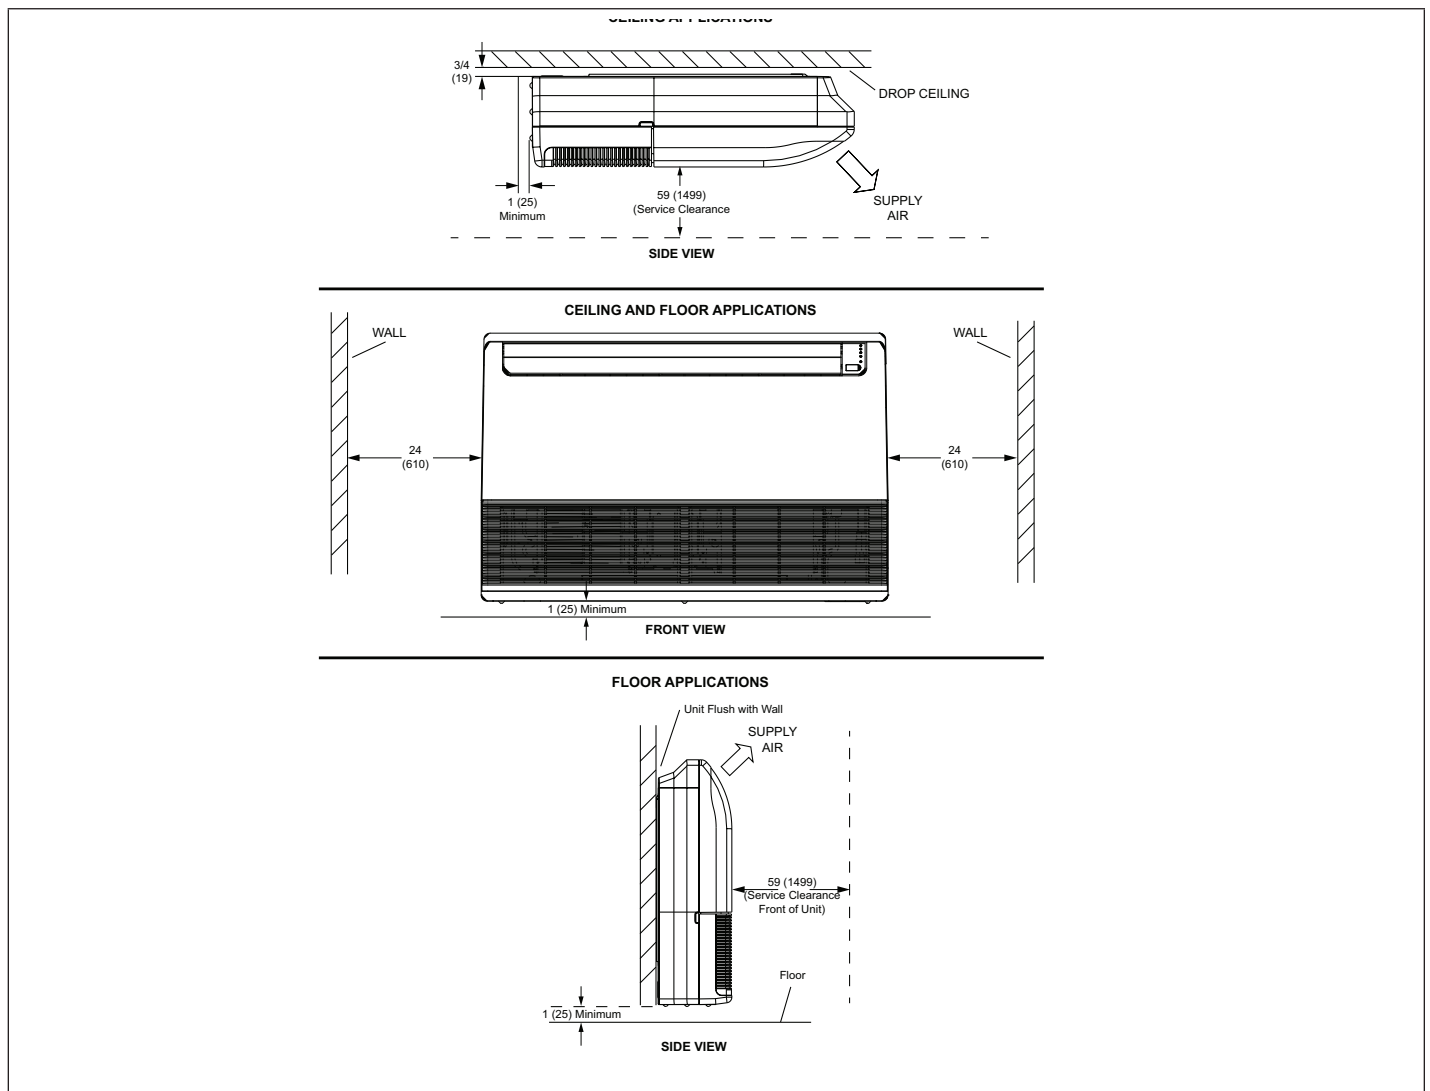

Figure 10. Indoor Unit Clearances - Inches (mm)
- Locate a suitable position within the space where maintenance access and supply air will not be restricted or affected by obstacles. See “Figure 10. Indoor Unit Clearances - Inches (mm)” on page 9 for minimum clearances